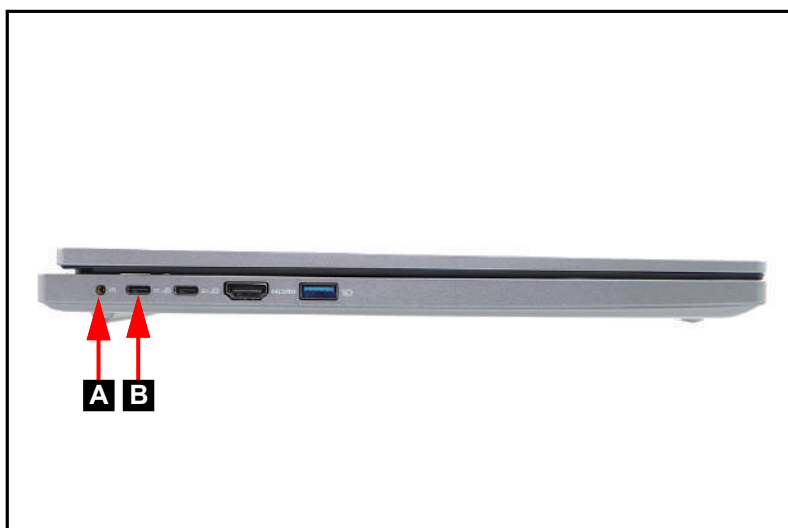

Figure 3-1. Adapter Outlet
2. Remove the AC adapter from the DC-in jack (A) or the power adapter from the USB Type-C port (B) as shown in Figure 3-1.